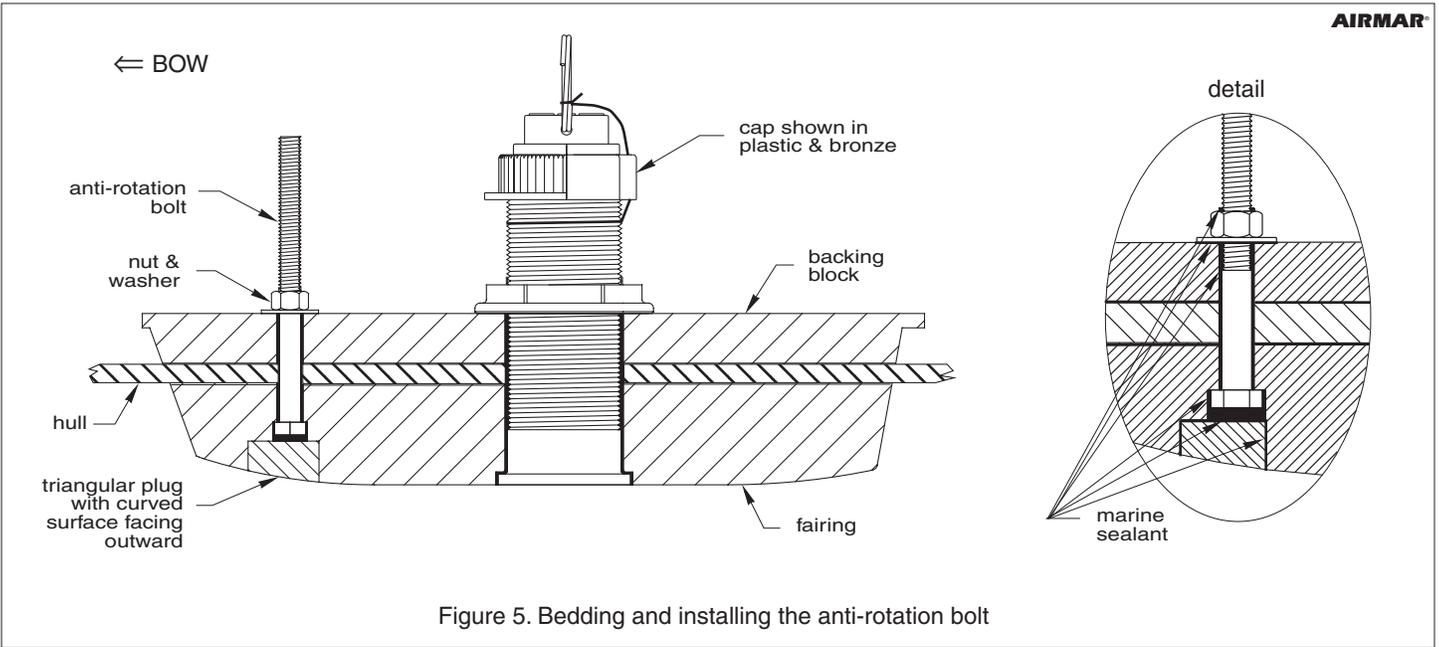

Figure 5. Bedding and installing the anti-rotation bolt
2. Attach the 10mm (3/8") drill bit to your drill. Slide the transducer housing with the fairing in place into the mounting hole. Hold the fairing parallel to the keel, being sure the triangular recess in the fairing is pointing forward toward the bow. While holding the assembly in place and using the bolt hole in the fairing as your guide, drill a hole through the hull for the anti-rotation bolt (see Figure 5).
1. From outside the hull, push the transducer housing (with the fairing in place) into the mounting hole using a twisting motion to squeeze out excess sealant (see Figure 5).
1. Apply a 2mm (1/16") thick layer of marine sealant to the anti-rotation bolt, 6mm (1/4") higher than the combined thickness of the fairing, hull, backing block, washer, and nut (see Figure 5). This will ensure that there is marine sealant on the threads to seal the hull and hold the nut securely in place. Apply a 2mm (1/16") layer of marine sealant to the side of the washer that will contact the backing block.
3. Slide the insert into the housing (see Figure 5). Seat the insert into place with a twisting motion until the key fits into the notch. *Be careful* not to rotate the outer housing and disturb the sealant. Screw the cap nut in place and **HAND-TIGHTEN** only. *Do not* over tighten.
2. Remove the safety wire from the pull ring and cap nut. Then, unscrew the cap nut (see Figure 5).